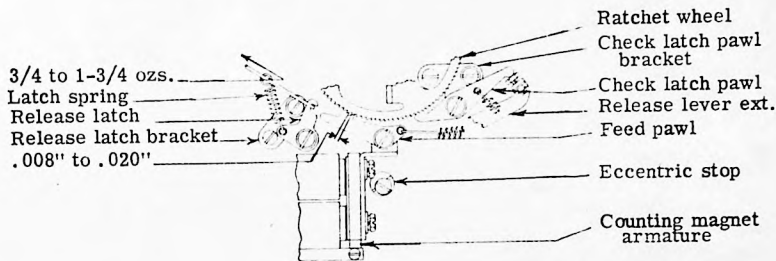

Figure 12
41. CHECK LATCH PAWL BRACKET ADJUSTMENT (Figure 12)